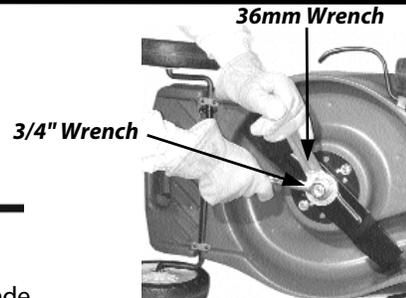

Figure 22
1. Place the 36mm Wrench over the Steel Hex Adapter (the large metal piece that holds the Blade in position) and place a 3/4" Wrench or Socket over the Blade Nut (**Figure 22**).
5. Place the 36mm Wrench over the Steel Hex Adapter, then place a 3/4" Wrench (or optional Torque Wrench with a 3/4" Socket) over the Blade Nut (**Figure 22**) and while holding the Hex Adapter in place; tighten the Blade Nut securely (16.6 Ft-Lbs) by turning clockwise. Again, be careful, hold the Hex Adapter firmly in place so that the Blade does not spin and strike your hand.